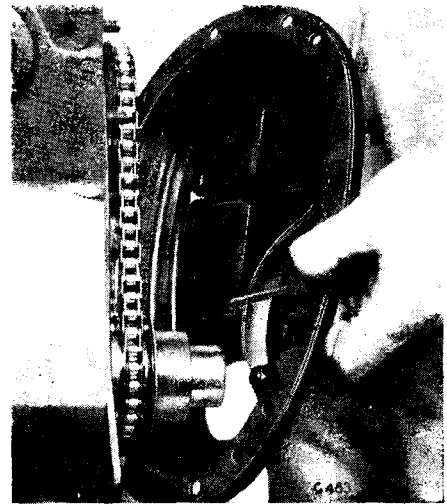
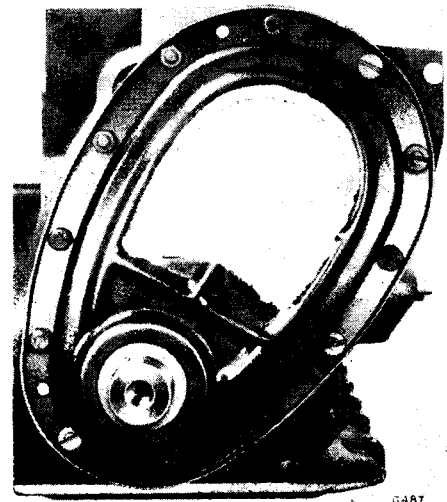

Fig. 60. Fitting timing cover
Fig. 61. Timing cover attachments
Positioning the dished face of the oil thrower (103) towards the oil seal, slide the oil thrower over the key (109), until it abuts against the crankshaft sprocket (102). Place a new gasket (44) over the dowels on the front engine plate and, using a hooked tool as shown in Fig. 60, compress the chain when fitting the cover. Secure the cover as shown in Fig. 61.